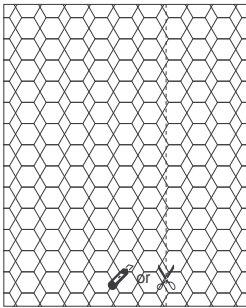
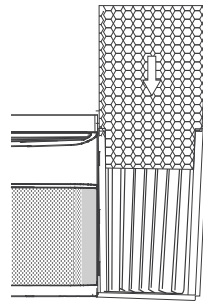

FIG. 11
FIG. 12
- 7** Measure the width of the inner side curtain with the provided ruler, as shown (FIG. 10). Mark a line on the patterned side of the provided insulation panel according to the measured width, then cut out the insulation panel along the line, as shown (FIG.11). Place the patterned side of the insulation panel to face inside your room, then slide the insulation panel into the frame until the panel goes into the side curtain frame completely. If the insulation panel does not slide in the frame smoothly, trim the insulation panel then try again, until the insulation panel fits the frame, as shown (FIG.12). Repeat these instructions for the other side.